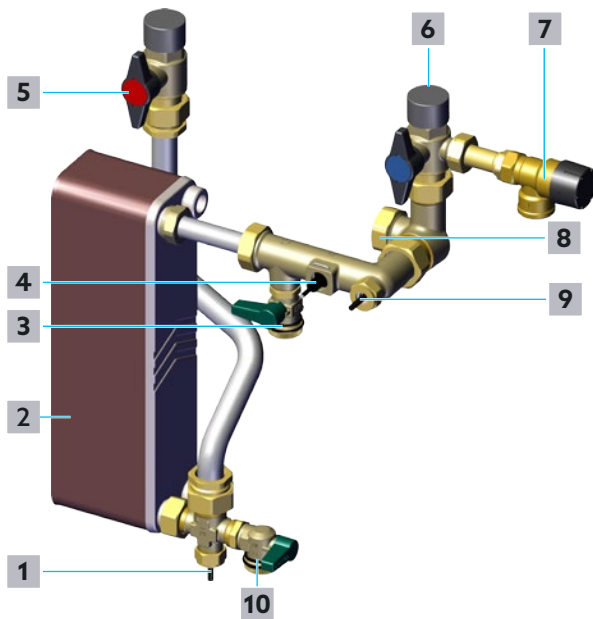

Fig. 19: Filling and venting of the potable water circuit
- 1 Slowly open the shutoff ball valve for potable water (hot) (position **5** in Fig. 19 on page 26 and position **10** in Fig. 2 on page 12).
- 2 Slowly open the shutoff ball valve for potable water (cold) (position **6** in Fig. 19 on page 26 and position **11** in Fig. 2 on page 12).
- ▶ If noises due to trapped air continue to occur in the potable water circuit, slightly open the fill and drain ball valve for potable water (hot) (position **10** in Fig. 19 on page 26 and position **16** in Fig. 2 on page 12) until only water escapes.